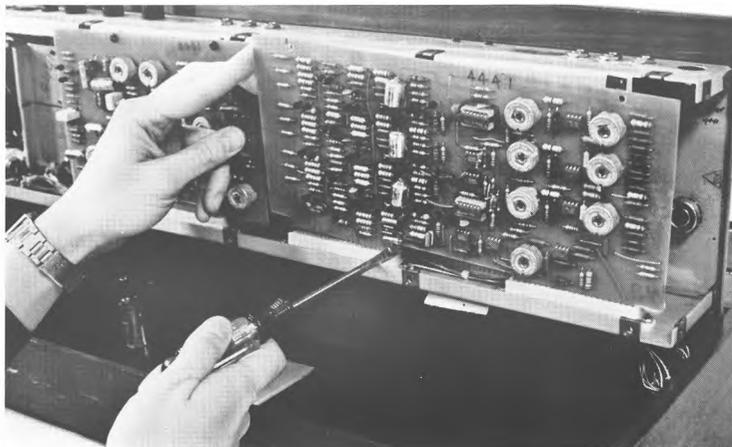

Figure 4
2) With the cover removed, note that there are two circuit boards visible at the rear plane of the chassis. The circuit board at the far right (when looking at the rear of the unit) is board #1 and contains the oscillator bank. There are two screws which mount the top edge of this board to the top panel of the chassis. Remove these screws, making sure you don't lose the fiber washers which act as stand-offs between the circuit board and chassis. See figure 3. Once the screws are removed, use a wide blade screwdriver to VERY CAREFULLY pry the circuit board from its two sockets. The sockets are very tight, so you will need the screwdriver to wedge between the socket and the edge of the circuit board. Twist the screwdriver, and move to the other end of the board repeating the procedure until the board is far enough out of the socket to pull it free. See figure 4.
That means you enter a key change, and clock it out. "Clock it out with what?" you say. Well, how about a sequencer? Look at the patch in Fig 4 and think how it might sound if I punch in thirteen keys on the data keyboard and clock them out. (Note: I have not mentioned that each resistor on the outputs of the 4051 are in series with your Control Voltage that goes with the VCO. Remember, when you put a pot in a series with the control voltage line, it lowers the frequency of the VCO. So, this device switches pre-set pots tuned to half-steps in and out of the circuit.)